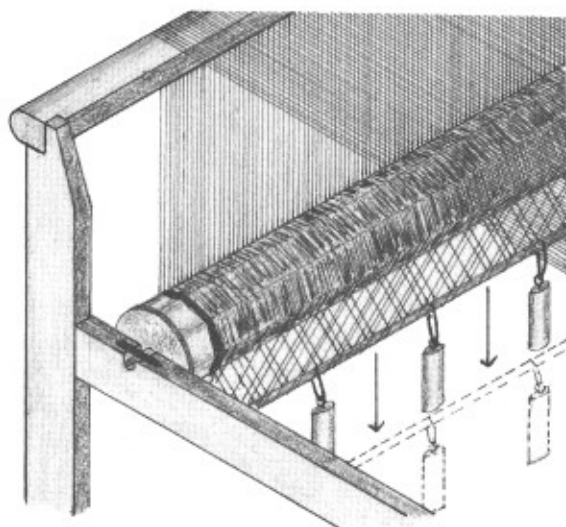

Fig. 495
**Second:** If your draft produces repeated warp floats on the same warp ends; while the other ends always interweave, the take-up on the floating ends will not be the same as on the interwoven ends. This can be corrected by opening the shed that raises the floating warp ends and inserting a rod under these ends behind the harnesses. Slide the rod back until it is under the warp beam and suspend weights from it until these threads are under the same tension as the rest of the warp. (Figs. 495 and 496)